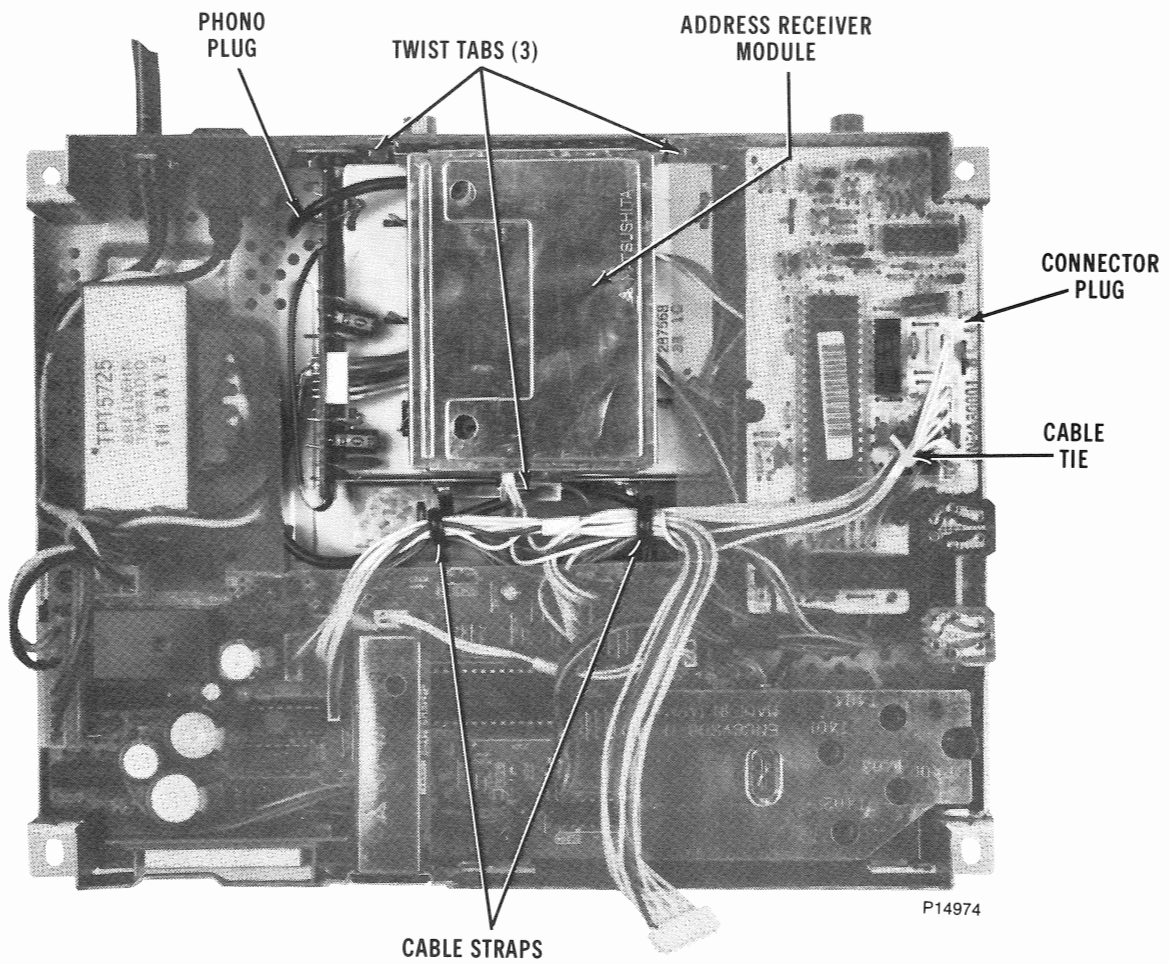
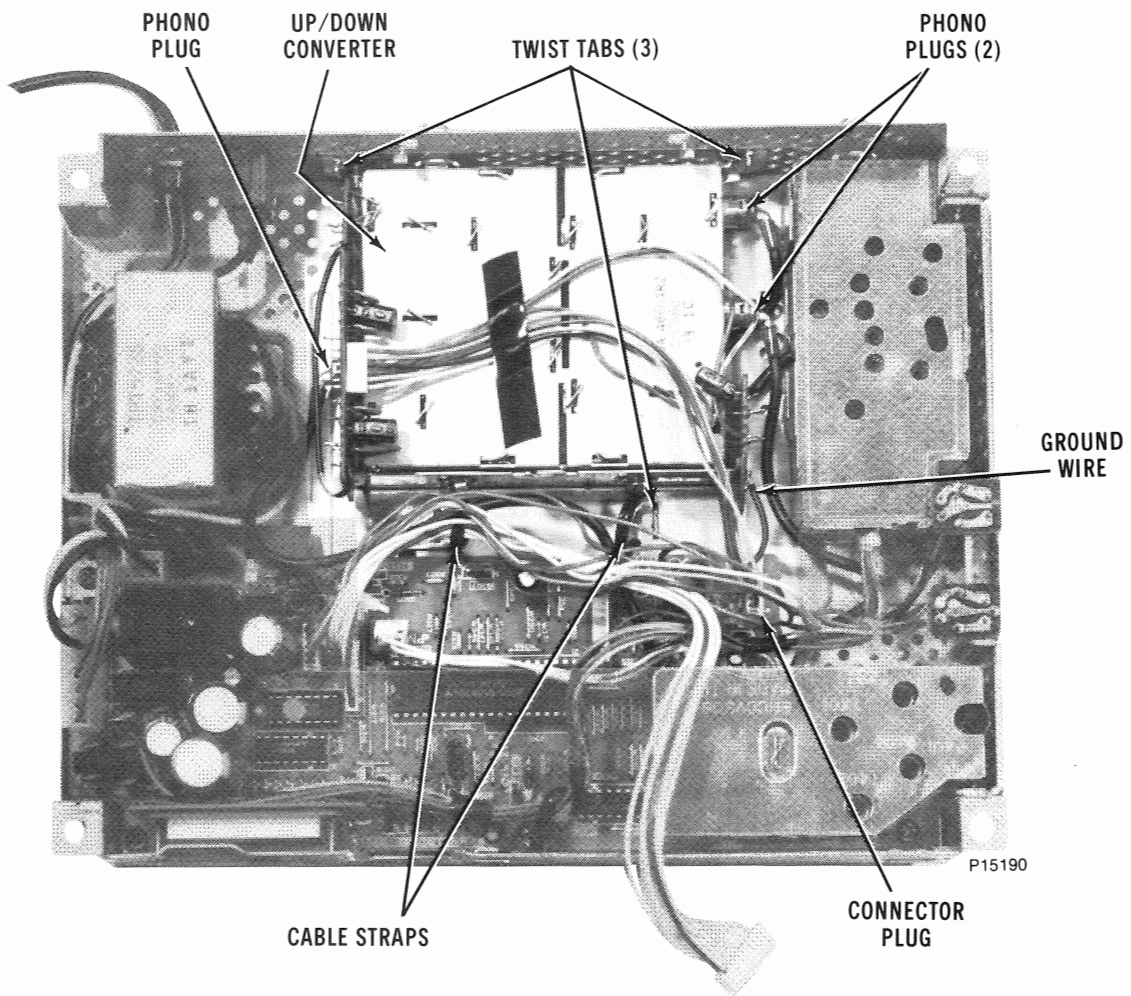

Figure 5-3. Address Receiver Removal
Figure 5-6. Up/Down Converter Removal
Cable routing is very critical within the unit. When replacing modules be sure that you dress all wiring as it was originally; figure 5-3 can be used as a guide for cable dressing with all modules in place, while figure 5-6 shows the top modules removed.
5.3.2.3 Address Receiver Removal (figure 5-3).
5.2.3.6 Up/Down Converter Removal (figure 5-6).